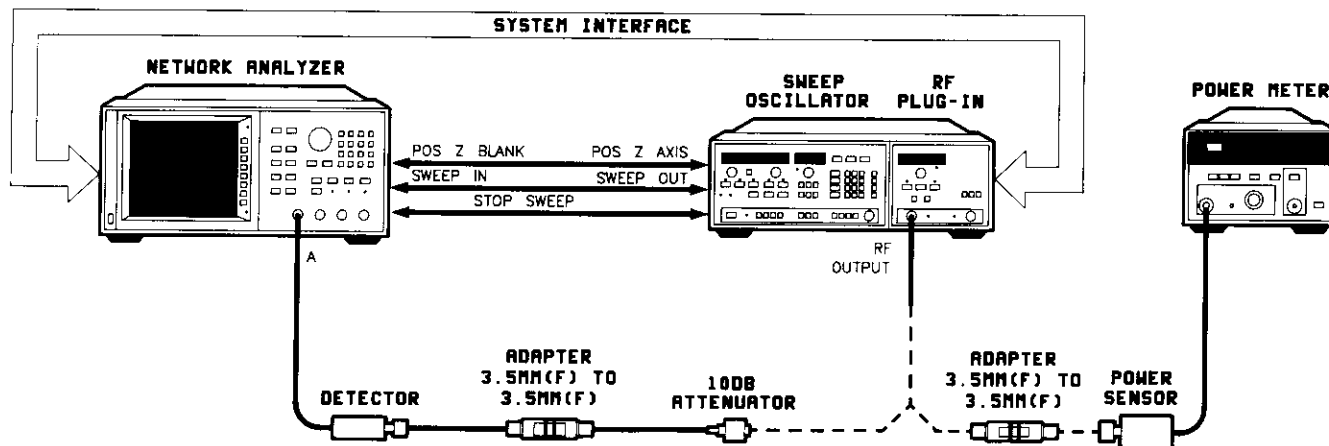

Figure 5-31. Power Calibration Test Setup
1. Connect the equipment as shown in Figure 5-31 with the power meter connected to the RF output. Allow 30 minutes for warm-up.